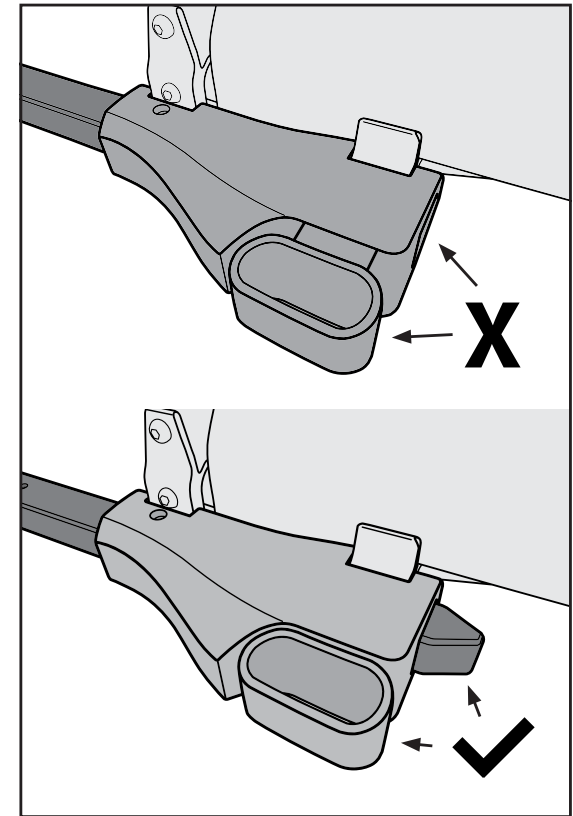

Figure 12
- While inserting the tow bar, you should see the release handle move outward and then return to its original position. The tow bar is not secure until the release handle has returned to its original position (Figure 12).